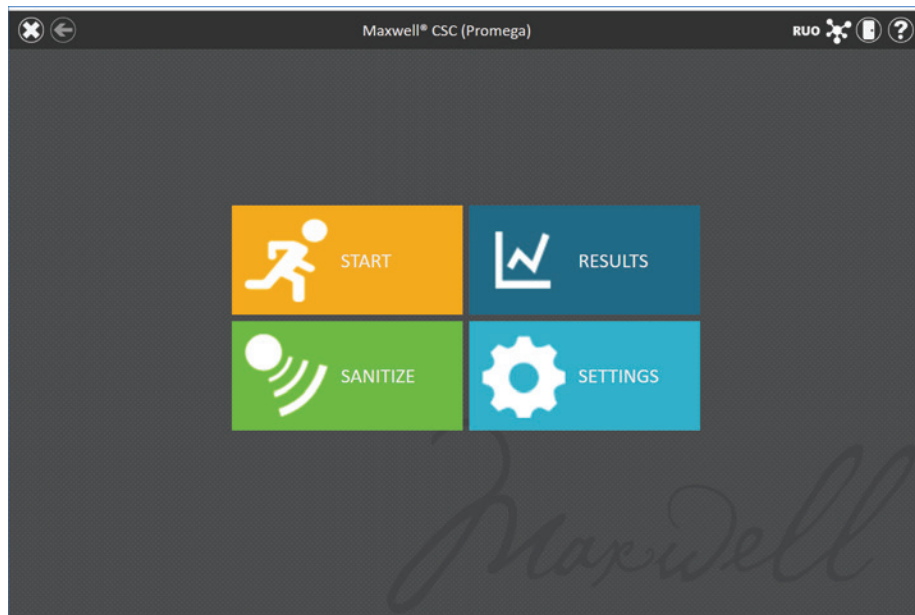

Figure 9. Maxwell® CSC 'Home' screen. Selecting Settings opens the Maxwell® CSC 'Settings' screen.
1. To return to the 'Home' screen from any other screen, touch the **Home** button in the upper left corner of the screen. From the 'Home' screen of the Maxwell® CSC RUO Mode User Interface (Figure 9), touch the **Settings** button.